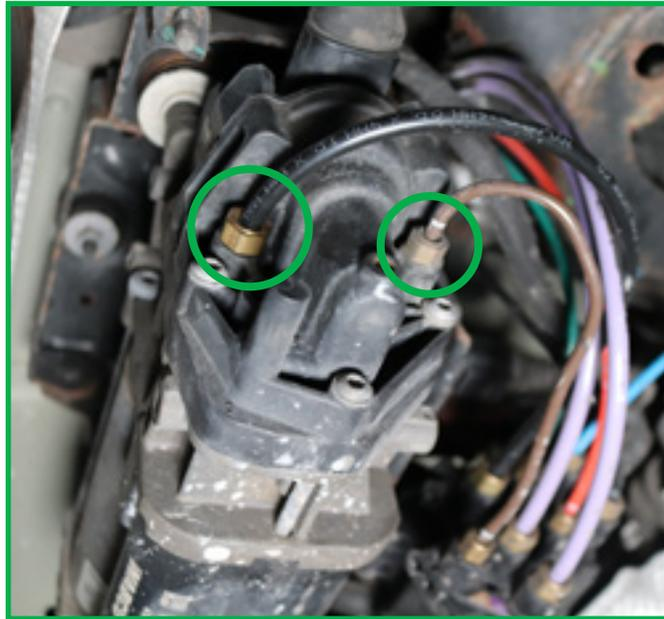

FIGURE 7
6. Remove the two air lines from both the compressor and the valve block. (Figures 7, 8)